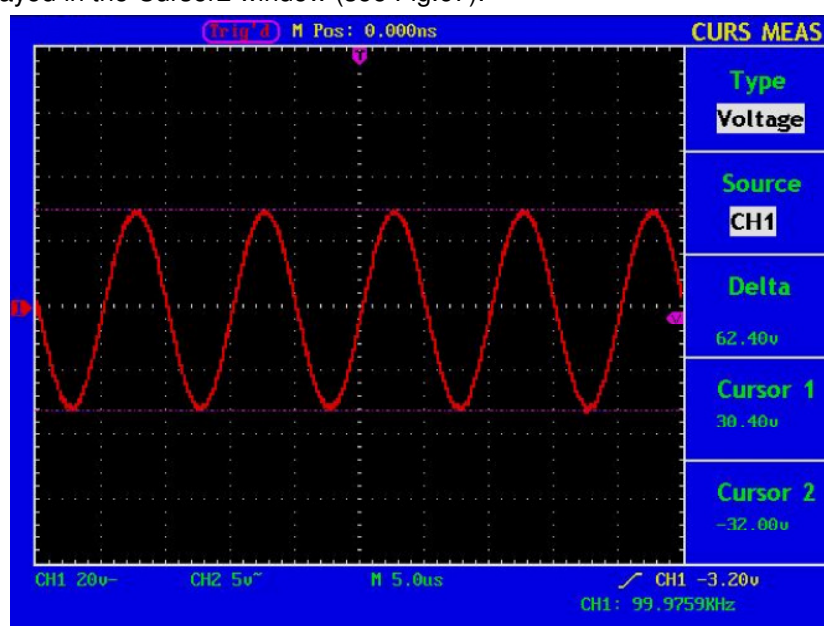

Fig. 67 Waveform of Voltage Cursor Measurement
4. Adjust the positions of **CURSOR1** and **CURSOR2** according to the measured waveform, with the absolute value of the voltage amplitude difference between Cursor 1 and Cursor 2 displayed in the increment window. The current position of Cursor1 is displayed in the Cursor1 window and that of Cursor2 is displayed in the Cursor2 window (see Fig.67).